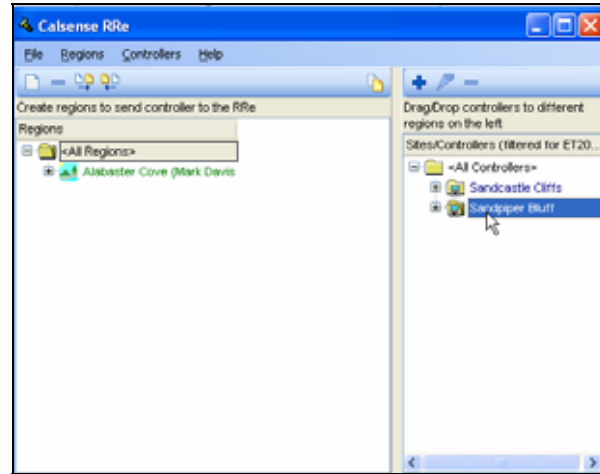

Figure 33.3.7
- From the “**Sites/Controller**” list highlight the site that you want to edit (Figure 33.3.7).